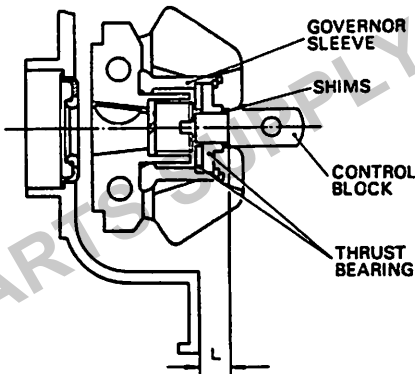

Fig. 4-57 Assembling dimension of flyweight
- (1) Put the thrust bearing into the governor sleeve and place the governor sleeve into position against the contact block in the flyweight. The flyweight should be in rest position. Place shims on the thrust bearing and check the assembling dimension as shown in Fig. 4-57.